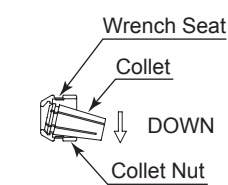
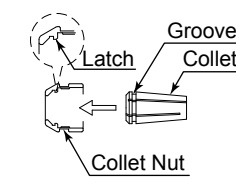
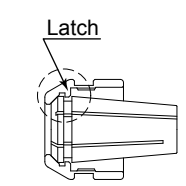

Fig. 5
Fig. 6
Fig. 7
- The collet and collet nut are secured by a groove in the collet and a flange in the collet nut. To remove the collet hold the collet nut in one hand and push diagonally down on the collet. The collet should be released (Fig. 5).
- To install the collet, hold the collet at a slight angle, and insert it into the collet nut (Fig. 6). Press the collet in the collet nut by positioning the collet in the collet nut and pressing down on flat surface (Fig. 5). Be sure to fully engage the latch inside the collet nut into the groove on the collet's outer circumference area (Fig. 7).